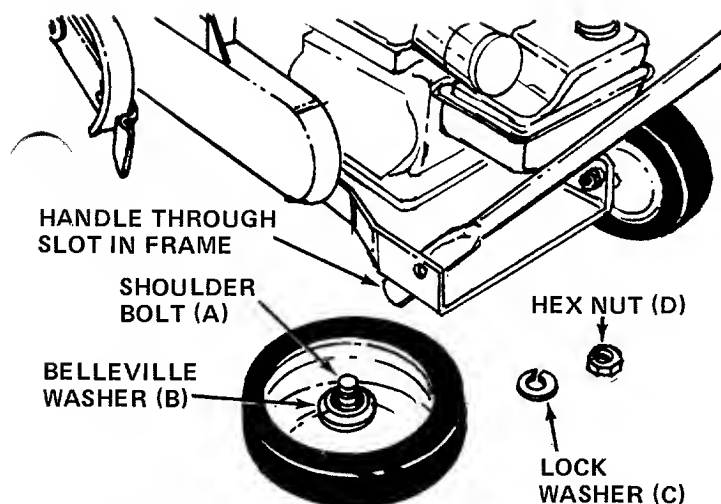

FIGURE 3.
2. Place lower handle into the slots in the rear frame. See figure 3.
3. Line up holes in handle with holes in frame. See figure 3.
4. Secure rear wheels (W) and lower handle (T) to frame with shoulder bolts (A), belleville washers (B) (cupped side of washer against the frame), lock washers (C) and hex nuts (D). See figure 3.